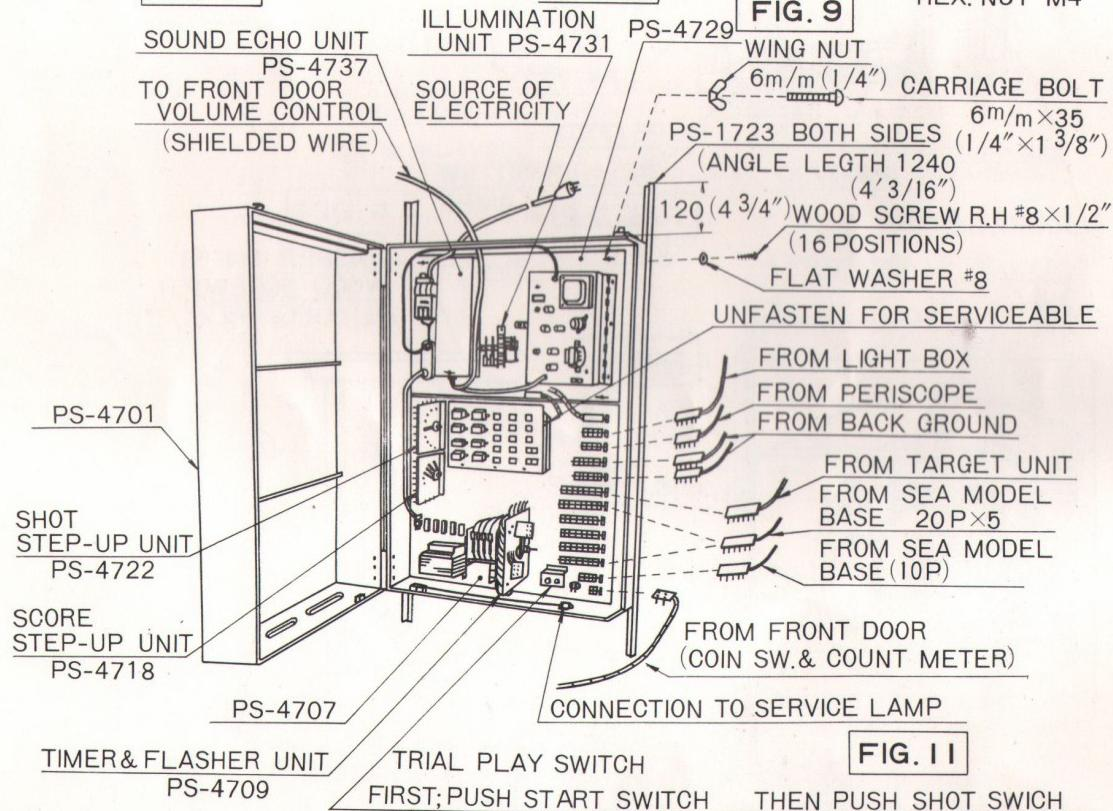
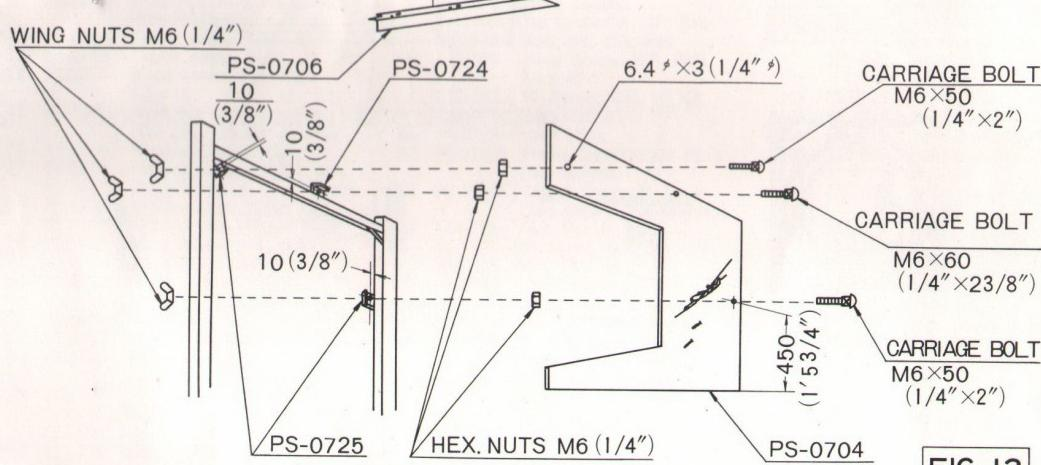

FIG. 11
FIG. 13
11. Put the electric unit on the left inner side of the frame and screw it to the frame (Fig. 11).
17. Plug all plugs into the electric unit (See Fig. 11). and check test the machine for proper operation. When the machine is working correctly, install the lower wooden frames left and right. See Fig. 14. Use the right size chromed bolts (there are different lengths) and from inside the correct size brackets (there are three kinds of brackets). then, put the upper wooden frame left and right as well as lower framework. See Fig. 13.